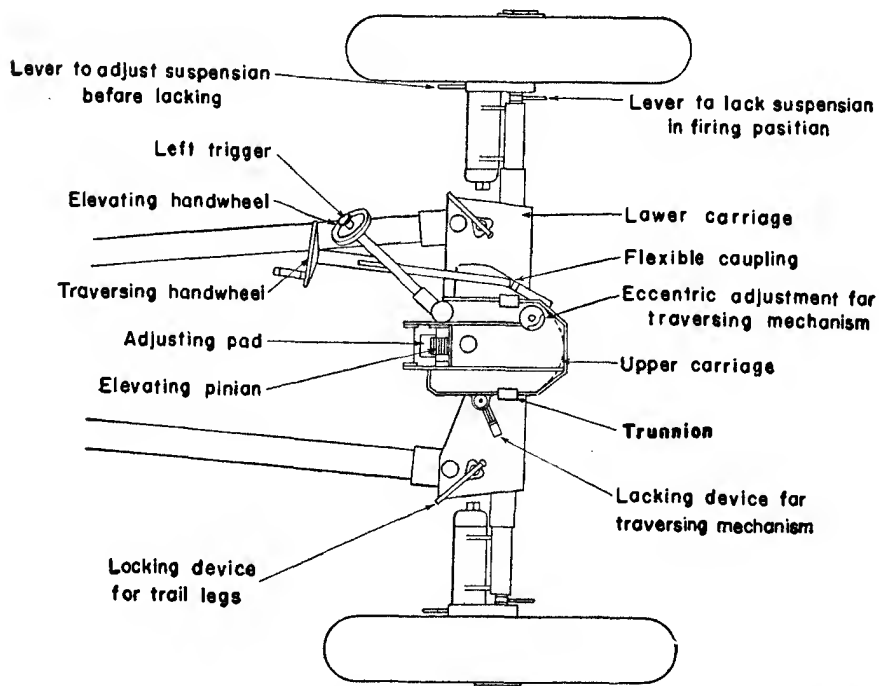

Figure 63.—Carriage of 3.7-cm Pak, showing traversing and elevating mechanisms.
(3) *Traversing mechanism*.—The gunner is on the left side of the weapon and operates the traverse with his right hand by a small handwheel (clockwise to the right, counterclockwise to the left). (See fig. 63.) The traverse is 60 degrees (1,062 mils), and is completed by $30\frac{1}{2}$ turns of the handwheel.
(4) *Elevating mechanism.*—The arc of 21 degrees (372 mils) elevation and 13 degrees (229 mils) depression is completed by $33\frac{1}{2}$ turns of the hand-wheel, which the gunner operates with his left hand. (See fig. 63.)